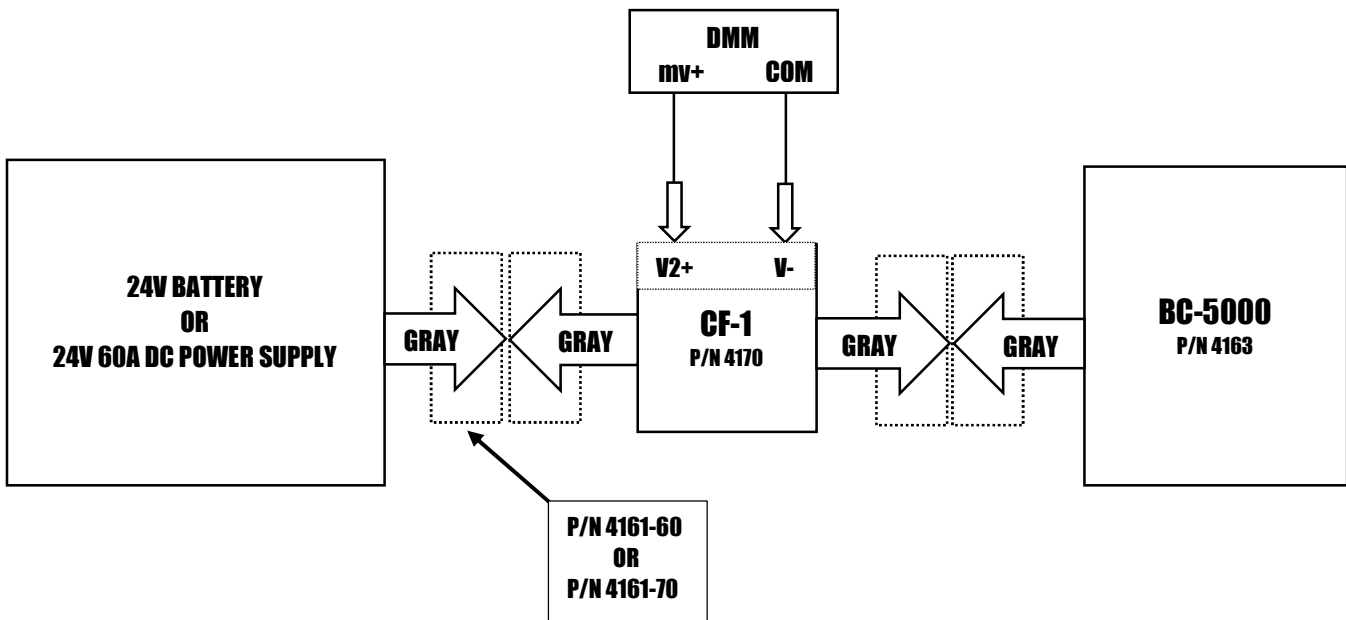

Figure 5
1. Plug the BC-5000 GRAY connector into the CF-1 GRAY connector labeled TESTER. Connect the DMM mv+ lead to the CF-1 V2+ RED test point. See figure 5.